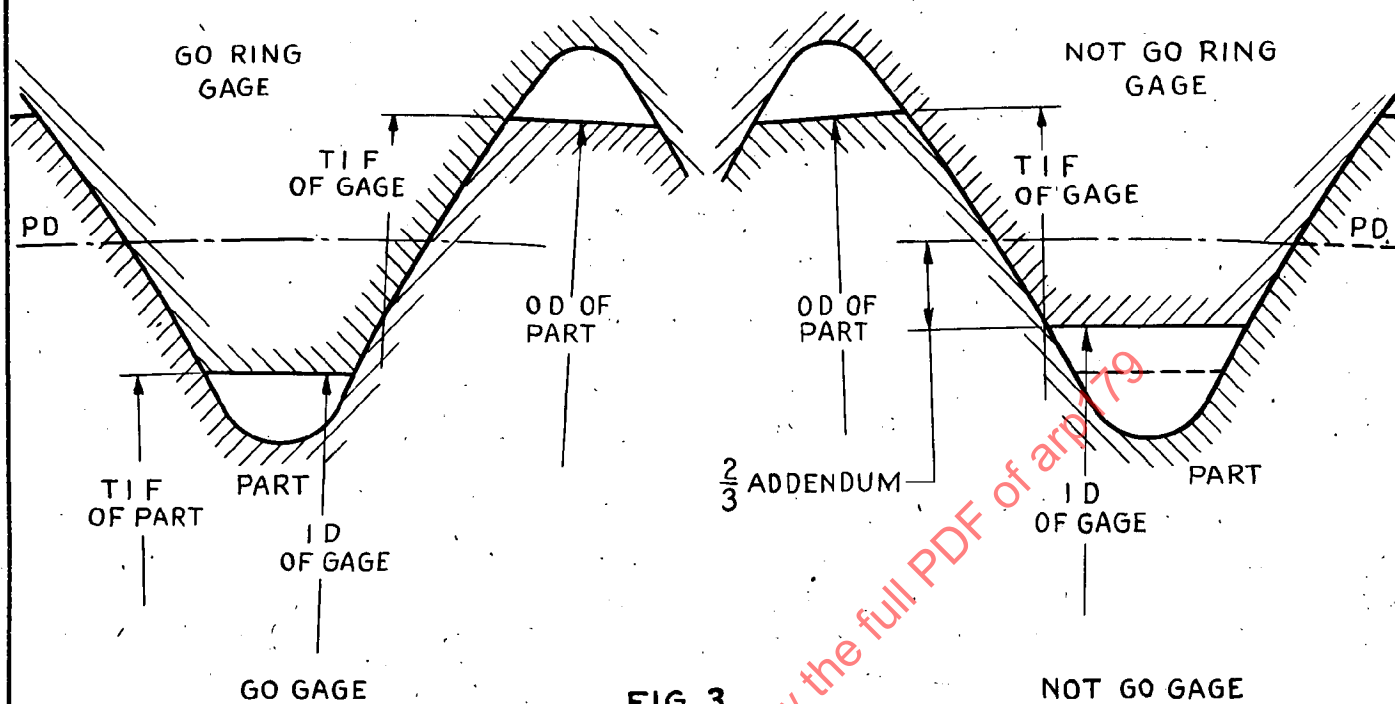

FIG 3
- B. Figure 3 shows the relationship of the ring gage to the external spline it is to check.
- G. A "Not Go" gage, to be effective, can check but one element. A "Not Go" gage made to check the chordal tooth thickness or chordal space at the pitch diameter is usually sufficient for practical purposes. In order that the "Not Go" gage may check at the pitch diameter, it is necessary to have a short addendum so that the inside diameter of the "Not Go" ring gage is greater than the inside diameter of the "Go" ring gage and the outside diameter of the "Not Go" plug gage is less than the outside diameter of the "Go" plug gage. The addendum of the "Not Go" gages shall be approximately $\frac{2}{3}$ of the addendum of the part. (See Figures 3 and 4)